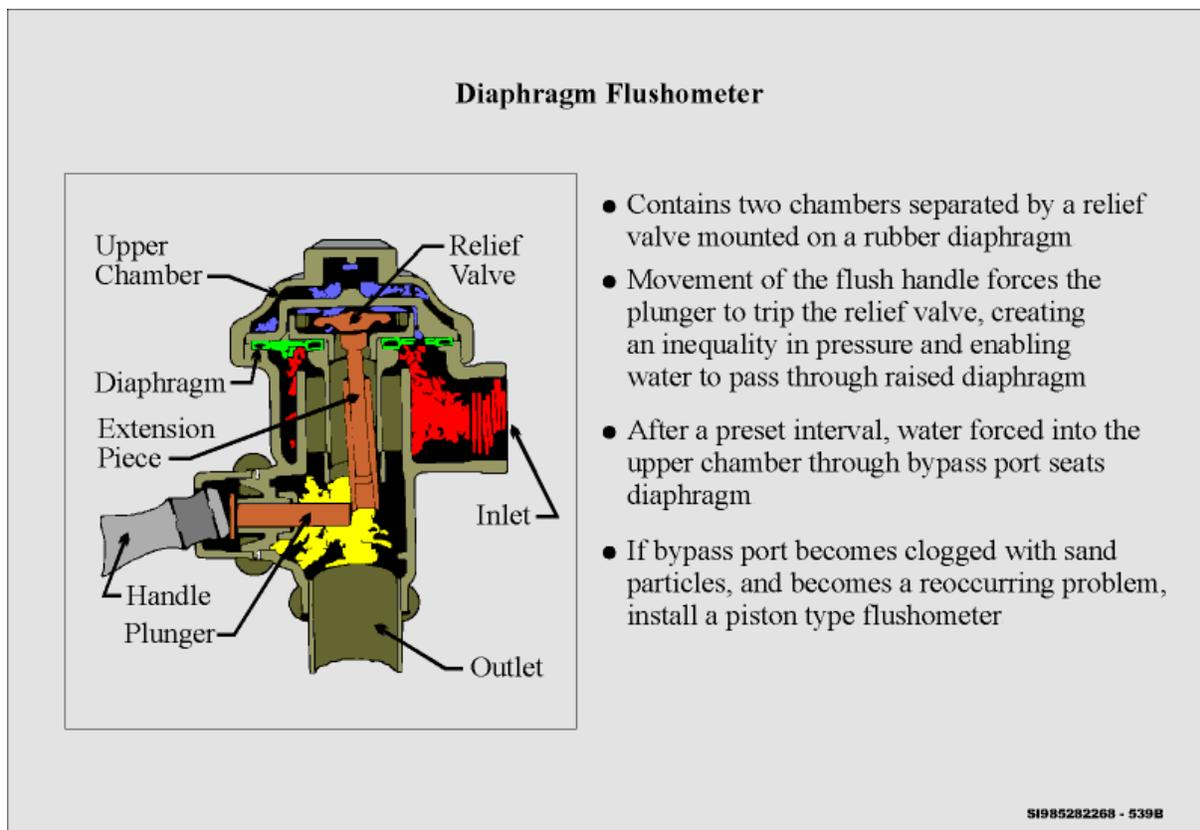

Figure 2. Diaphragm Type Flushometer
1.2. The diaphragm type flushometer uses a flat rubber diaphragm. It has an upper and a lower chamber, which is separated by a relief valve mounted on the diaphragm. The upper chamber is connected to the lower chamber by a bypass. The lower chamber is connected to a ¾ inch angle valve on the supply line. When the handle is activated the relief valve is moved to the open position discharging the water from the upper chamber. The difference in pressure between the upper and lower chambers forces the diaphragm to lift off its seat admitting water from the supply into the fixture. Water then fills the upper chamber through the bypass line. When the pressure equalizes the diaphragm will seat closing off the water flow. (See Figure 2.)